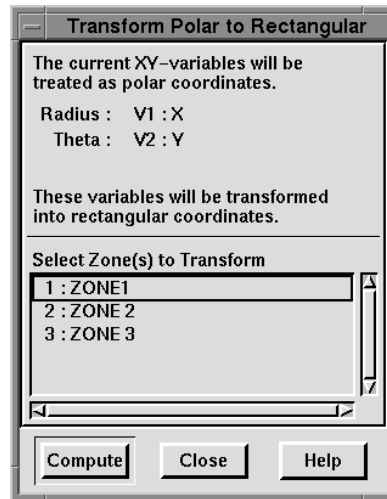

Figure 25-3. The Transform Polar to Rectangular dialog.
1. From the Data menu, choose Alter, then choose Polar to Rectangular. The Transform Polar to Rectangular dialog appears as shown in Figure 25-3.